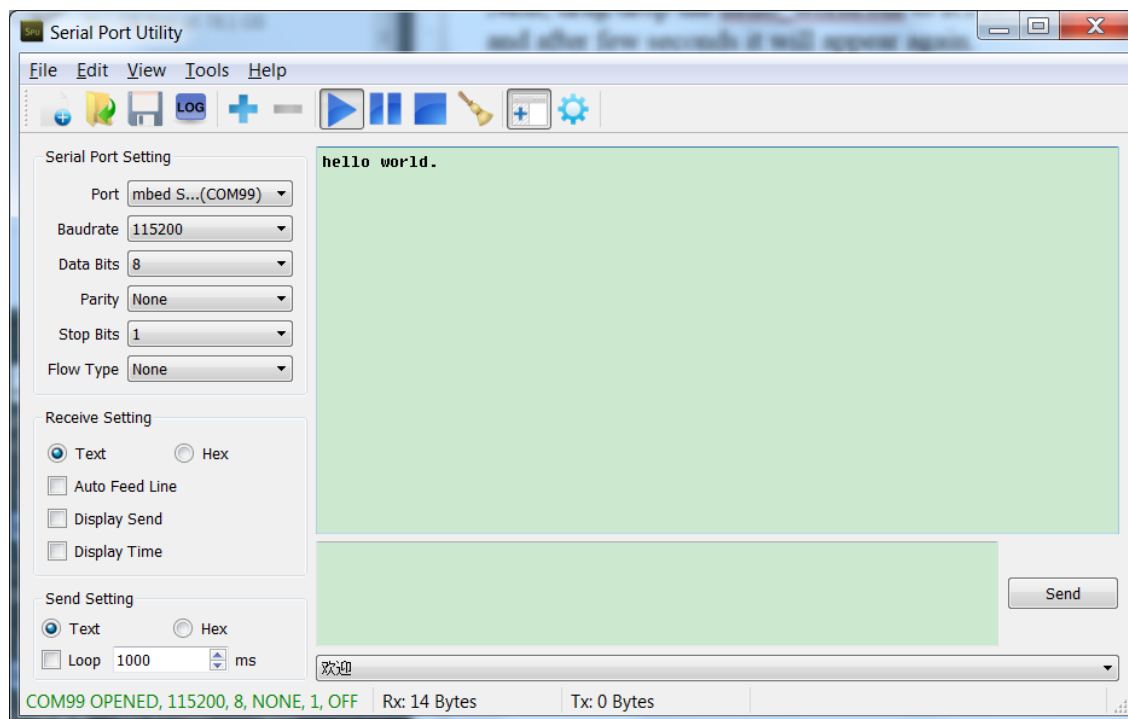

Figure 10. QSPI Flash Boot Mode Configuration
- Press SW3 to reset the EVK Board and “hello world” will be printed to the terminal. Figure 10